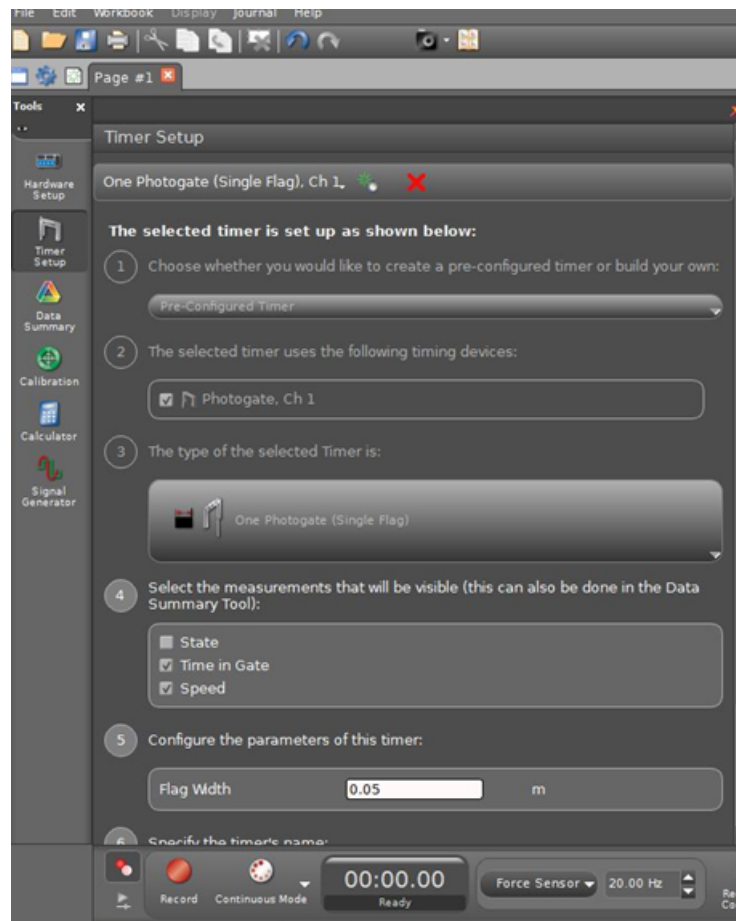

Figure 4: Capstone window showing input for flag width
- 2 Click the Timer Setup window. See Figure 4.